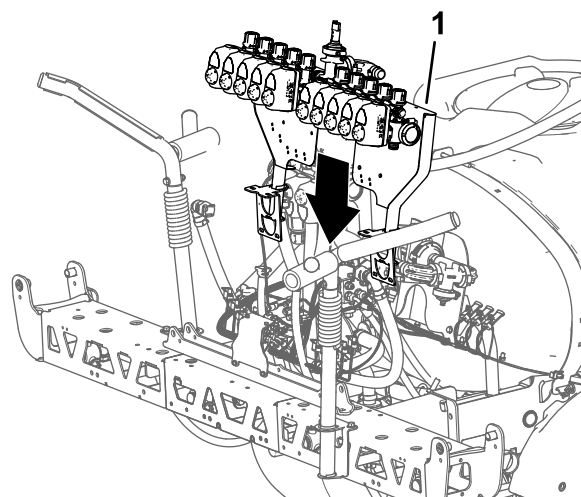

Figure 107
- Using lifting equipment with the specified capacity, lift the valve mount and sprayer valve assembly and align it over the center-spray section (Figure 107).